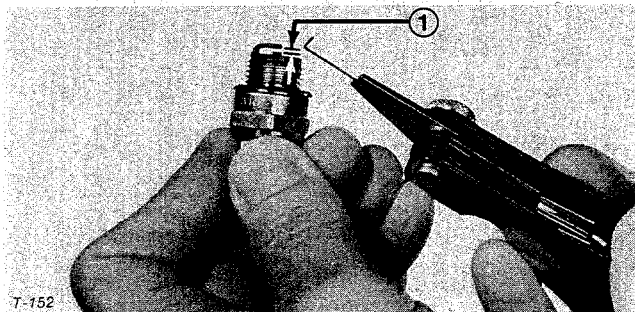

Figure 41
4. Set air gap between center and side electrodes at 0.030 of an inch (0.76 mm) (Fig. 41). Install correctly gapped spark plug w/gasket seal, and tighten plug to 15 ft-lb (20.4 N·m). If torque wrench is not used, tighten plug firmly.